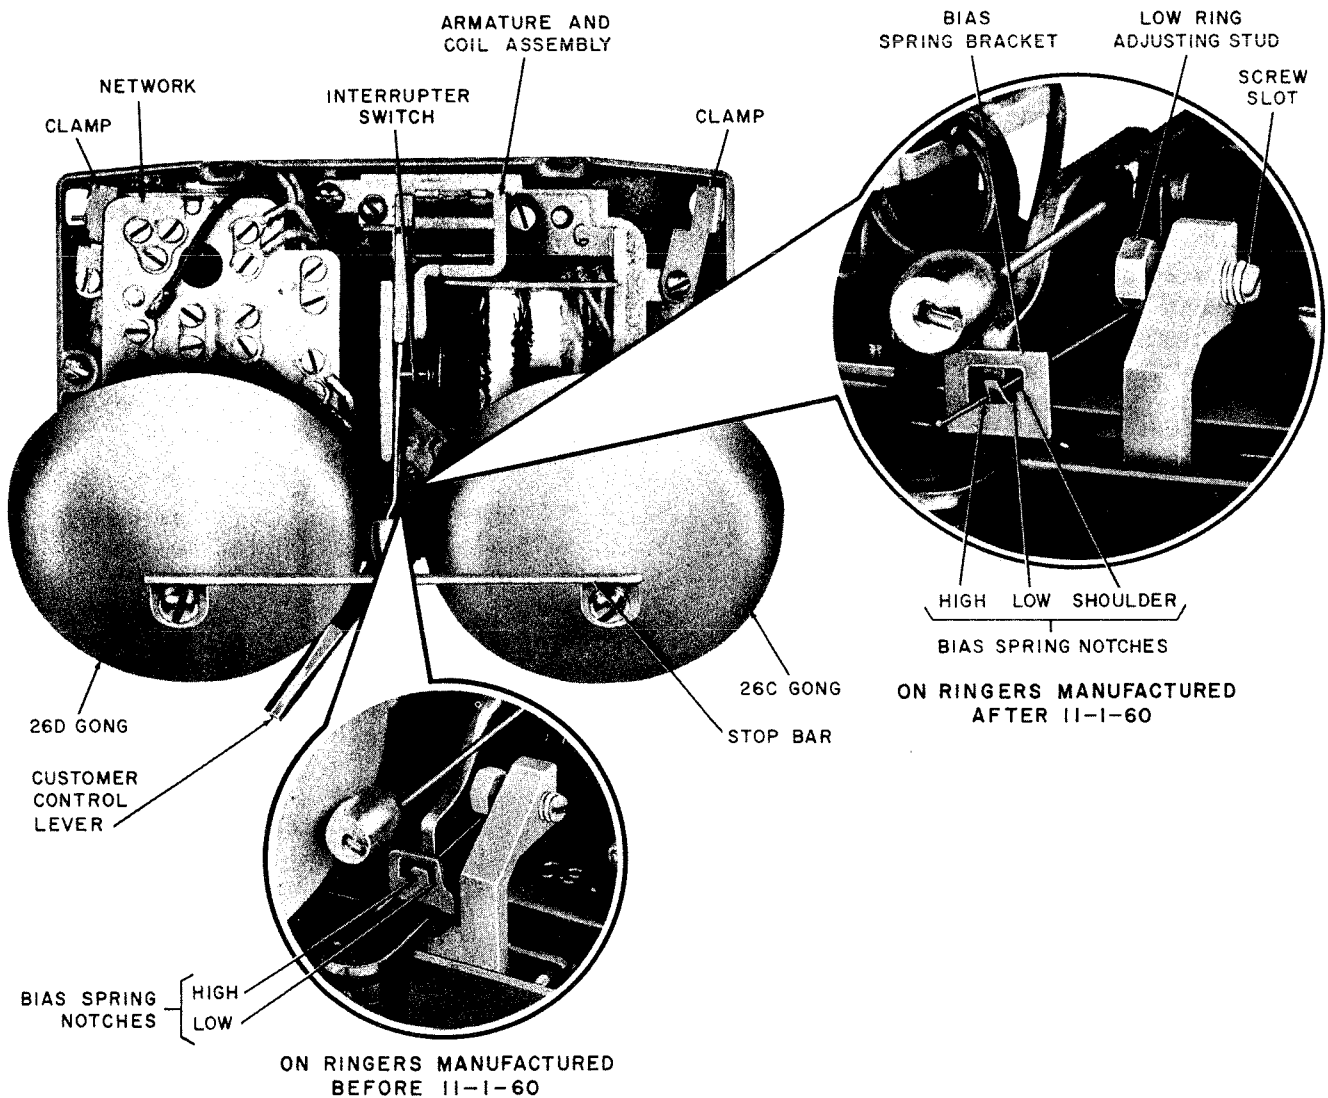

Fig. 3 — F1A Ringer, Components
2.01 The F1A ringer is a single coil, high impedance ringer with a 2 position bias spring adjustment. The component parts, shown in Fig. 3, are as follows:
(f) A stop bar (Fig. 3) to prevent cover from touching gong assemblies.
Remove the F1A ringer from shipping carton with care and handle ringer prior to installation with equal care to avoid changing adjustment of interrupter switch assembly. (See Fig. 3.) Keep the F1A ringer in a plastic bag in shipping carton prior to installation. When F1A ringer is removed from shipping carton to be installed, do not leave plastic bag where it is accessible to children. DESTROY PLASTIC BAG IMMEDIATELY. Handle the F1A ringer by using stop bar attached to the two gongs.
CAUTION: *On earlier models of the F1A ringer, the interrupter switch assembly was not mounted separately. Loosening the left clamp screw may allow the component plate to shift, changing the position of the interrupter switch. On later models of the F1A ringer (Fig. 3), the rack arm may become displaced from under the 26C gong plate preventing movement of the ringer control lever to either the LOUD or CHIME position. Use care to prevent these conditions when loosening the left clamp screw and fully tighten clamp screw when the set cord is installed.*
3.09 Adjust volume of low ring by moving adjusting stud (Fig. 3) right or left; use a small screwdriver in slotted end, located beneath
4.01 The ringer is shipped with bias spring in high (left) notch. Table A indicates proper position of bias spring for various classes of service. (See Fig. 3.)
4.03 The biasing spring bracket has been changed on later models of the F1A ringer. (See Fig. 3.)